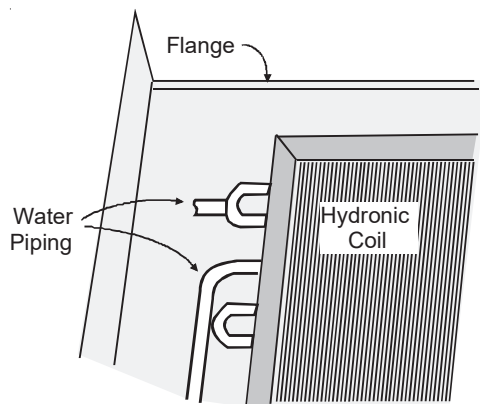

Figure 17
3. Make sure all piping is plumbed to the coil and system has been bled of air. Using the existing six screws and hydronic top from Step 13, place the top cover over the coil deck assembly. Make sure the back flange of the top cover fits inside the small vertical flange in the back of the coil assembly. (Figure 17.)